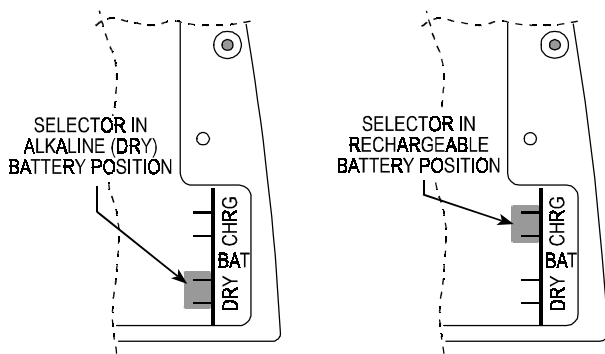

Figure 15. Battery Selector Positions
**CAUTION!** If you replace rechargeable cells with alkaline (dry) cells or vice versa, mount the battery-type selector in the correct position (CHRG for rechargeable cells and DRY for alkaline cells - see Figure 15).